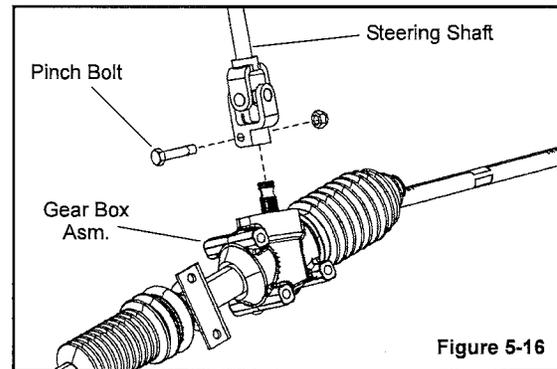

Figure 5-16
11. Reinstall the steering shaft assembly in the vehicle. Install the lower portion of the steering shaft onto the steering gear box assembly (see Figure 5-16). Torque the lower pinch bolt to specification.